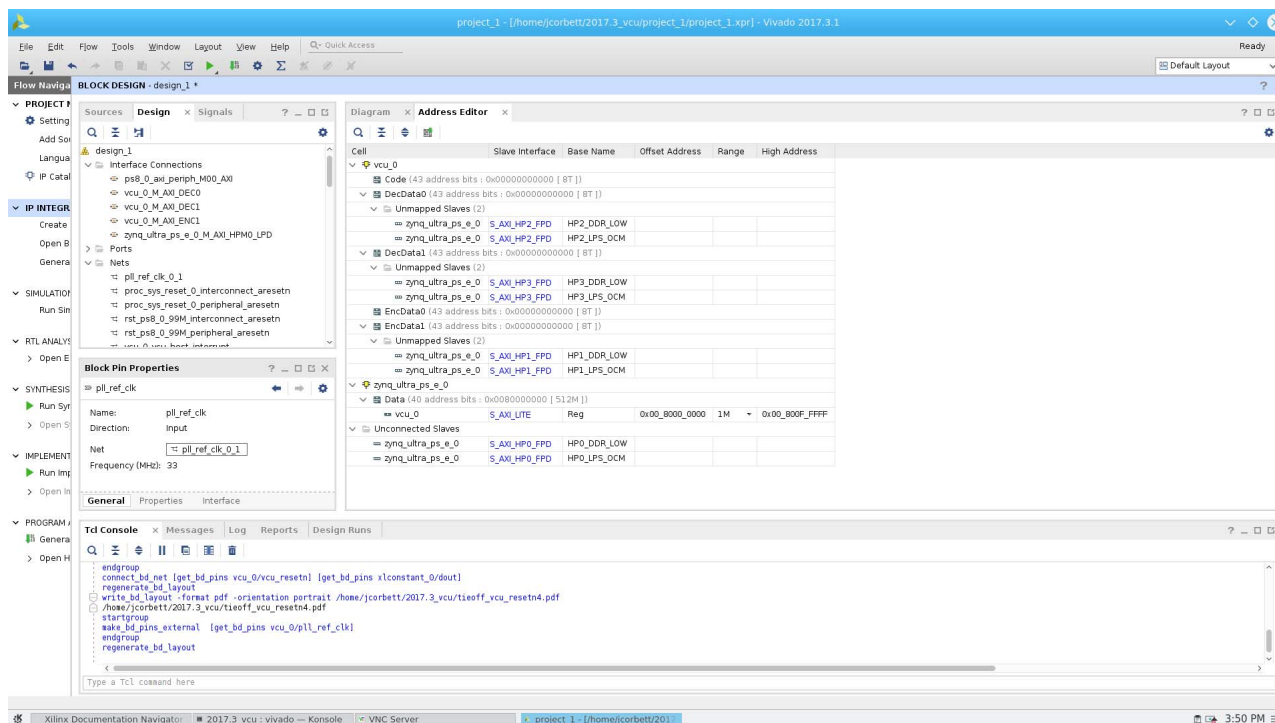

Figure 11-15: Address Editor
21. In the **Address Editor** tab, expand EncData address segment and auto assign the addresses. **Figure 11-15** shows an example address map.